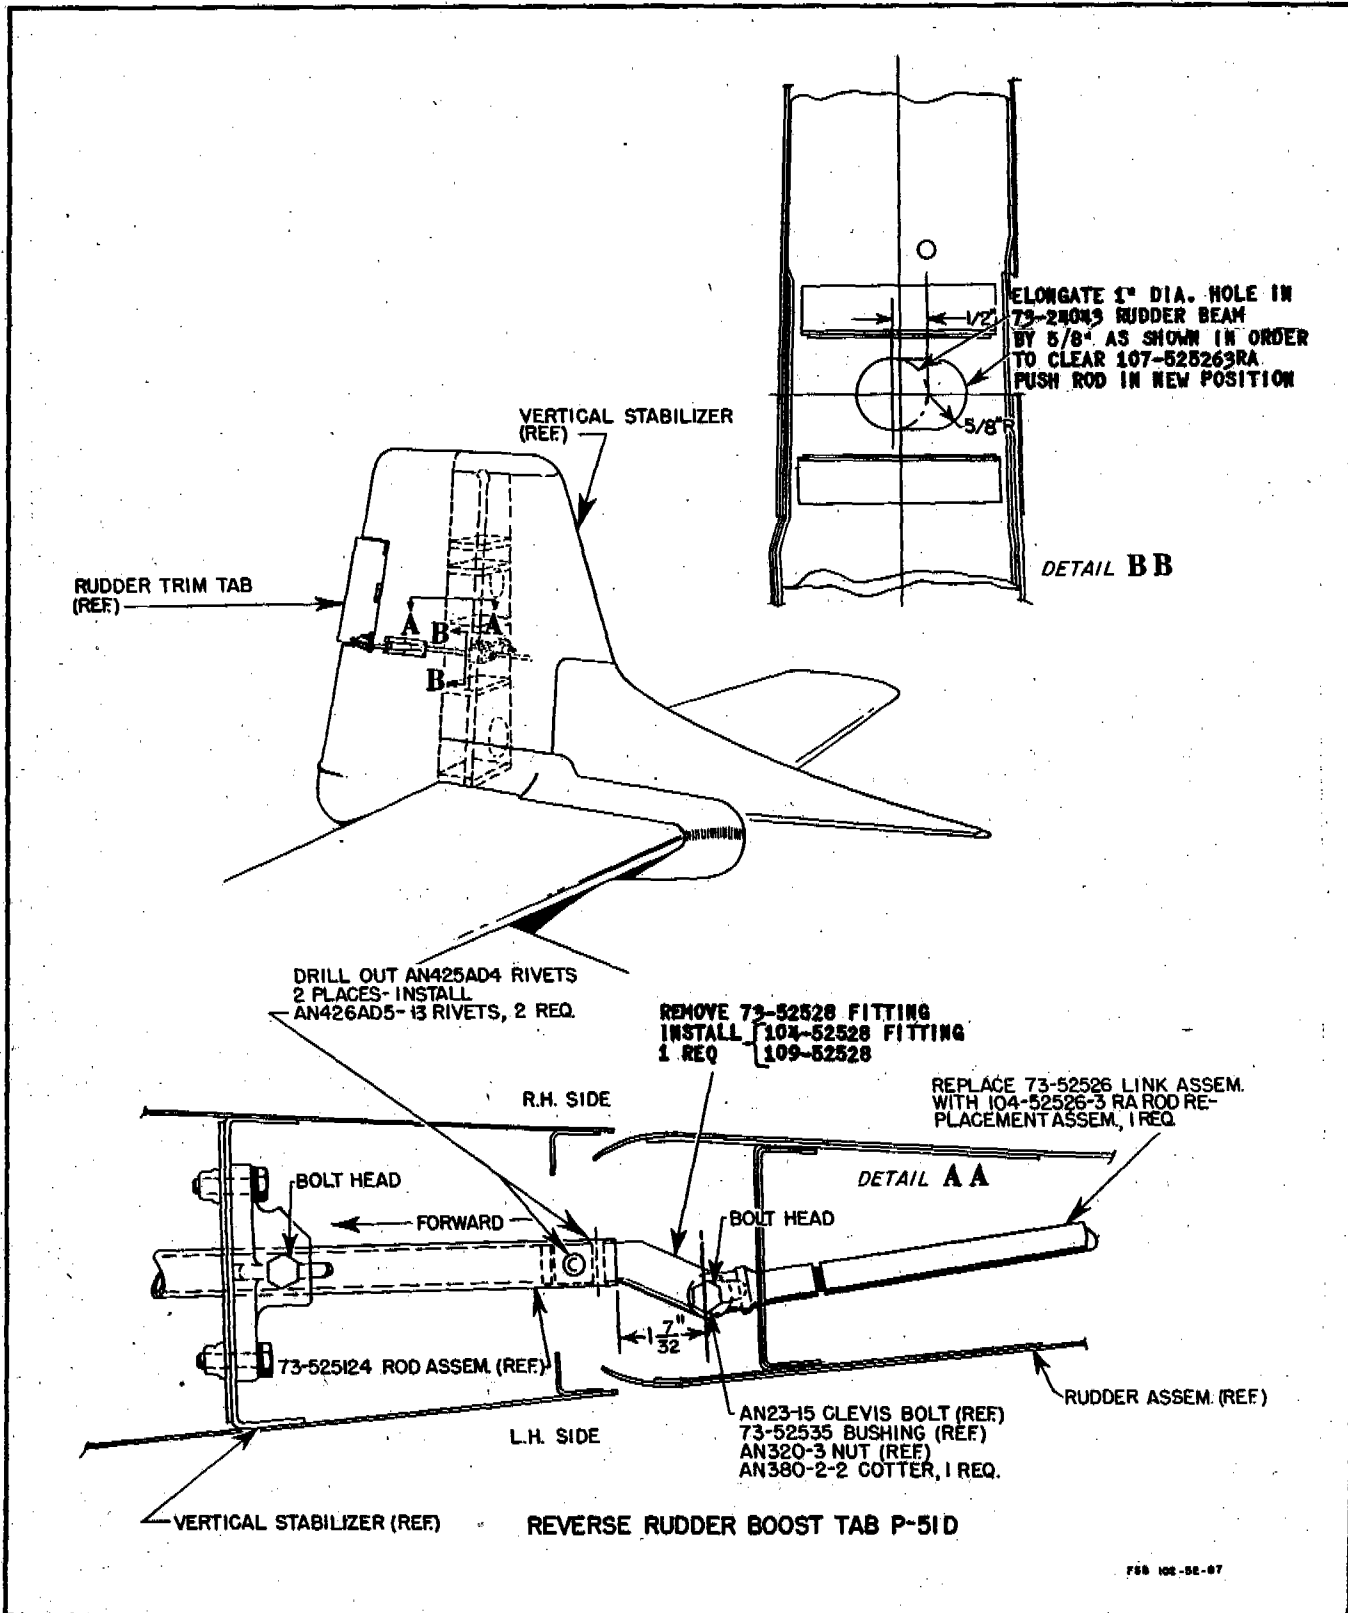

Figure 2 - Reverse Rudder Boost Tab - P-51D
(3) Remove the trim tab actuating rod fairing from the rudder.
(4) Remove the metal cap at the bottom of the rudder.
(5) Disconnect the rudder actuating rod at the lower hinge casting.
(6) Remove the bolt from the lower hinge casting.
(7) Remove the bolt from the center hinge casting.
(8) Support the rudder and then remove the bolt from the upper hinge casting.
(9) Disconnect the navigation light wire.
(10) Guide the rudder straight aft, off the vertical stabilizer, until it is clear of the trim tab rod.
(11) Remove the trim tab rod.
(12) Using a No. 30 (.1285-inch) drill, remove the two rivets, part No. AN425AD4, that secure the fitting, part No. 73-52528, in the end of the rod assembly, part No. 73-525124. (See detail A-A, figure 2.)
(13) Remove the fitting, part No. 73-52528, from the rod assembly.
(14) Insert the new fitting, part No. 104-52528 or 109-52528, in the rod assembly so that the bearing center line is to the left of the center line of the vertical stabilizer and parallel to the vertical center line of the rudder hinge, holding 1-7/32 inch dimension from end of rod, part No. 73-525124, to center line of bearing on fitting, part No. 104-52528 or 109-52528, as shown in detail A-A, figure 2.
(15) Drill two No. 30 (.1285-inch) holes in the new fitting to match the holes in the rod assembly where the rivets were removed.
(16) Enlarge the two holes just drilled with a No. 21 (.159-inch) drill.
(17) Countersink the above holes on both sides 100 degrees x 7/32-inch diameter.
(18) Secure the new fitting in the rod assembly with two rivets, part No. AN426AD5-13.
(19) As shown in detail B-B, figure 2, elongate the 1-inch diameter hole in the rudder beam, part